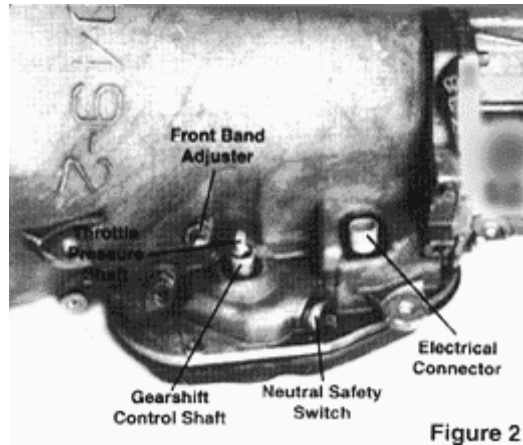

**Figure 1**
**Step 2** The valve body will now be exposed. (See **Figure 1**) It is held in place by ten (10) ¼" x 20 bolts. Before valve body can be removed, you must disconnect shift & throttle linkage. (See **Figure 2**) Throttle linkage is located on the driver side of the case. The lever is attached to the throttle shaft and held in place with a pinch bolt. Use a 7/16" wrench or socket and loosen the bolt but do not remove it. Use a screwdriver to pry the lever up and off the shaft. Also, unplug the wiring harness connector that is pointing straight up.